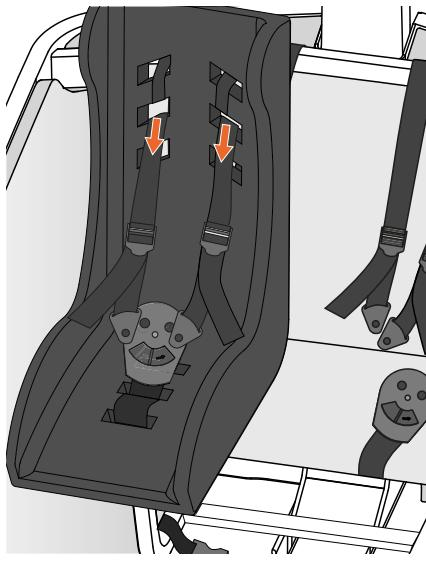

Figure 14 - Assembling strap and buckle.
17. Thread the shoulder straps through the rear of the toddler seat, as shown in figure 14, and lock the three-point seatbelt.